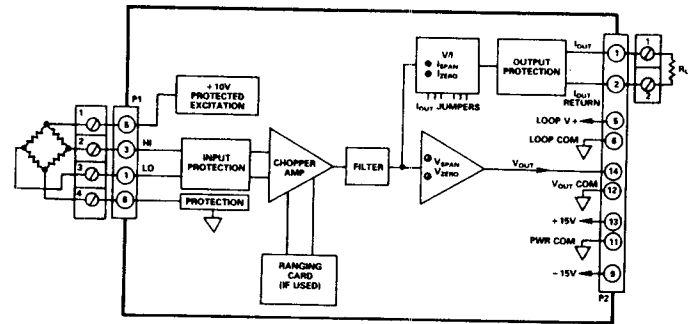

Figure 2.1.5.1 OM3-S Functional Block Diagram
1. Connect model OM3-S as shown in Figure 2.1.5.1 with $R_L = 250\Omega$.